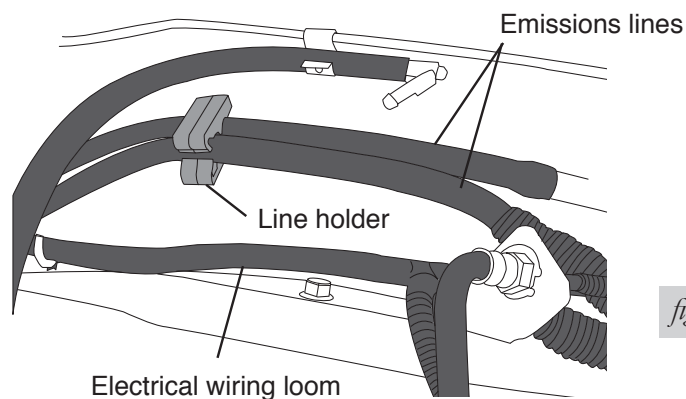

fig. 3
If your model truck has emission lines running along the inside of the frame rail (fig. 3), it will be necessary to relocate those lines as follows. Follow the directions in the section, "Attaching the Assemblies to the Frame" for reattaching these lines.
- *Carefully push the line holder out of the frame above the axle. Try to minimize damage because it will be reused later. It may also be helpful to remove any holders forward or rearward of the axle to aid in positioning the lines once the upper bracket has been installed (fig. 3).*